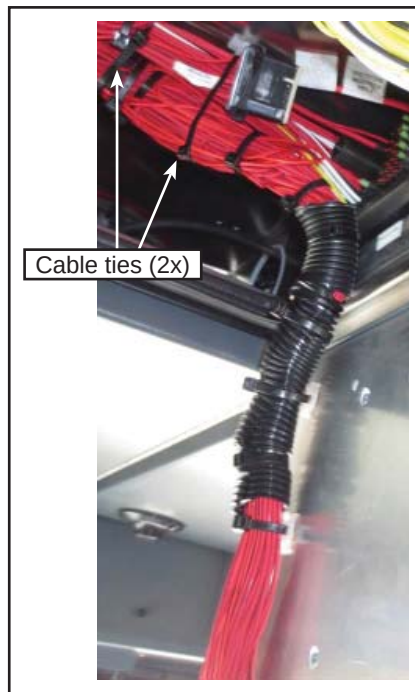

Figure 10 - Two Cable Ties on WHA #78 and RF0-X1178A Harnesses
- 1.26. Install two other G5007995 cable ties slightly further up than those in the previous step to attach the WHA #78 harness and the RF0-X1178A connector harness together. See Figure 10.